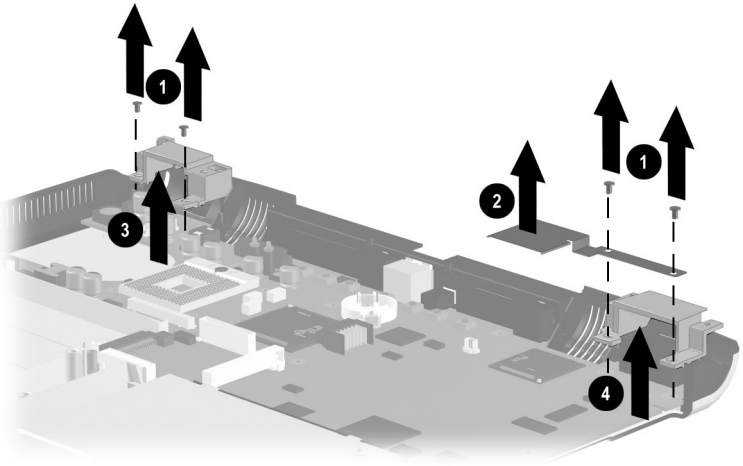

Figure 5-33. Removing the System Board Screws
5. Remove the four PM2.0 × 8.0 screws ❶ that secure the left and right display supports to the base enclosure (Figure 5-33).